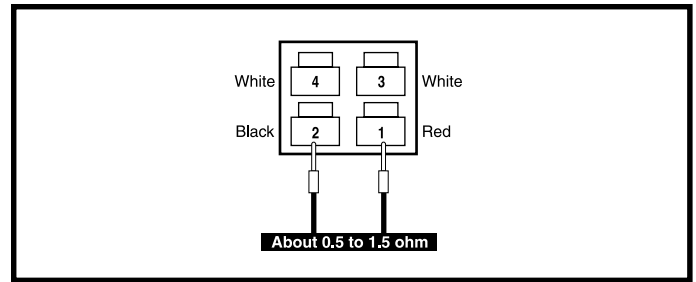

Figure 24. Connector 8a
2. Measure resistance across pin 1 (red) and pin 2 (black) of connector 8a. **See figure 24.**
- If your multimeter indicates about 0.5 - 1.5 ohms, then replace the VSI controller (1) and retest the system.